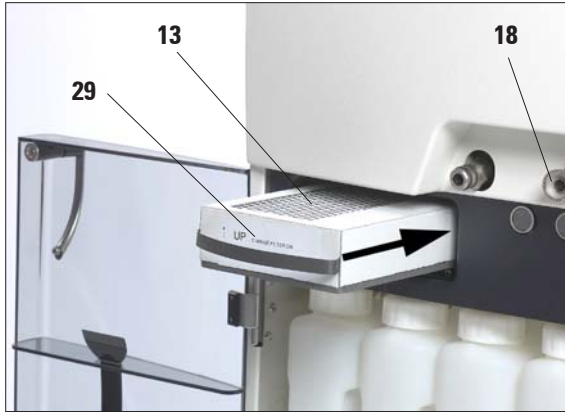

Fig. 5
- Unpack the activated carbon filter and insert it into the instrument (see Fig. 5).